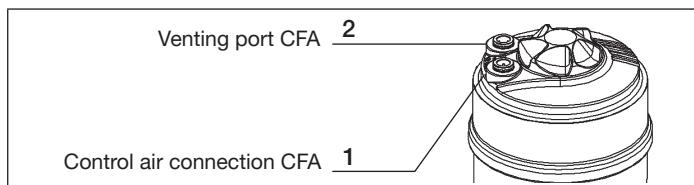

Fig. 4: Pneumatic Connection
- Connect control medium to control air connection 1 of the actuator (see „Fig. 4“).
- Plug the silencer into the free air venting port 2 (see „Fig. 4“).